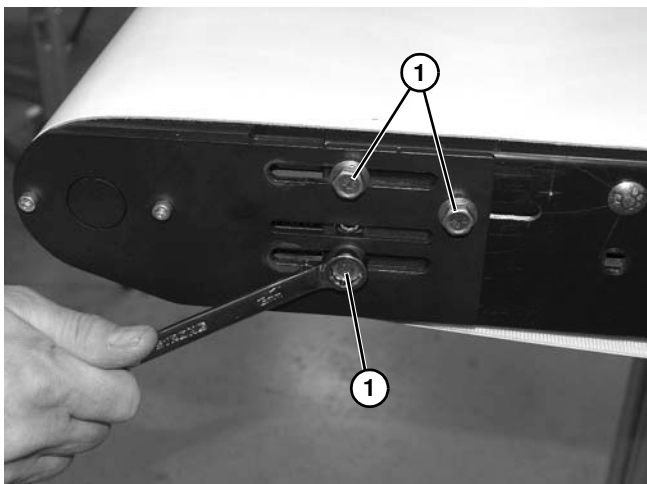

Figure 67
4. On tension end of the conveyor, loosen the three screws (**Figure 67, item 1**) on each side of the conveyor.